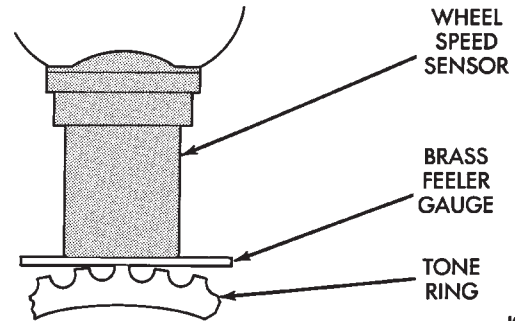

Fig. 10 Setting Air Gap On Original Rear Sensor
- (1) If **original sensor** is being installed, remove any remaining pieces of cardboard spacer from sensor pickup face. Use dry shop towel only to remove old spacer material.
- (2) Insert sensor wire through support plate hole. Then seat sensor grommet in support plate.
- (3) Apply Mopar Lock N' Seal or Loctite® 242 to original sensor bolt. Use new bolt if original is worn or damaged.
- (4) Install sensor bolt finger tight only at this time.
- (5) If **original** rear sensor was installed, adjust sensor air gap to 0.28-1.5 mm (0.011-0.059 in.). Use feeler gauge to measure air gap (Fig. 10). Tighten sensor bolt to 12-14 N·m (106-124 in. lbs.).